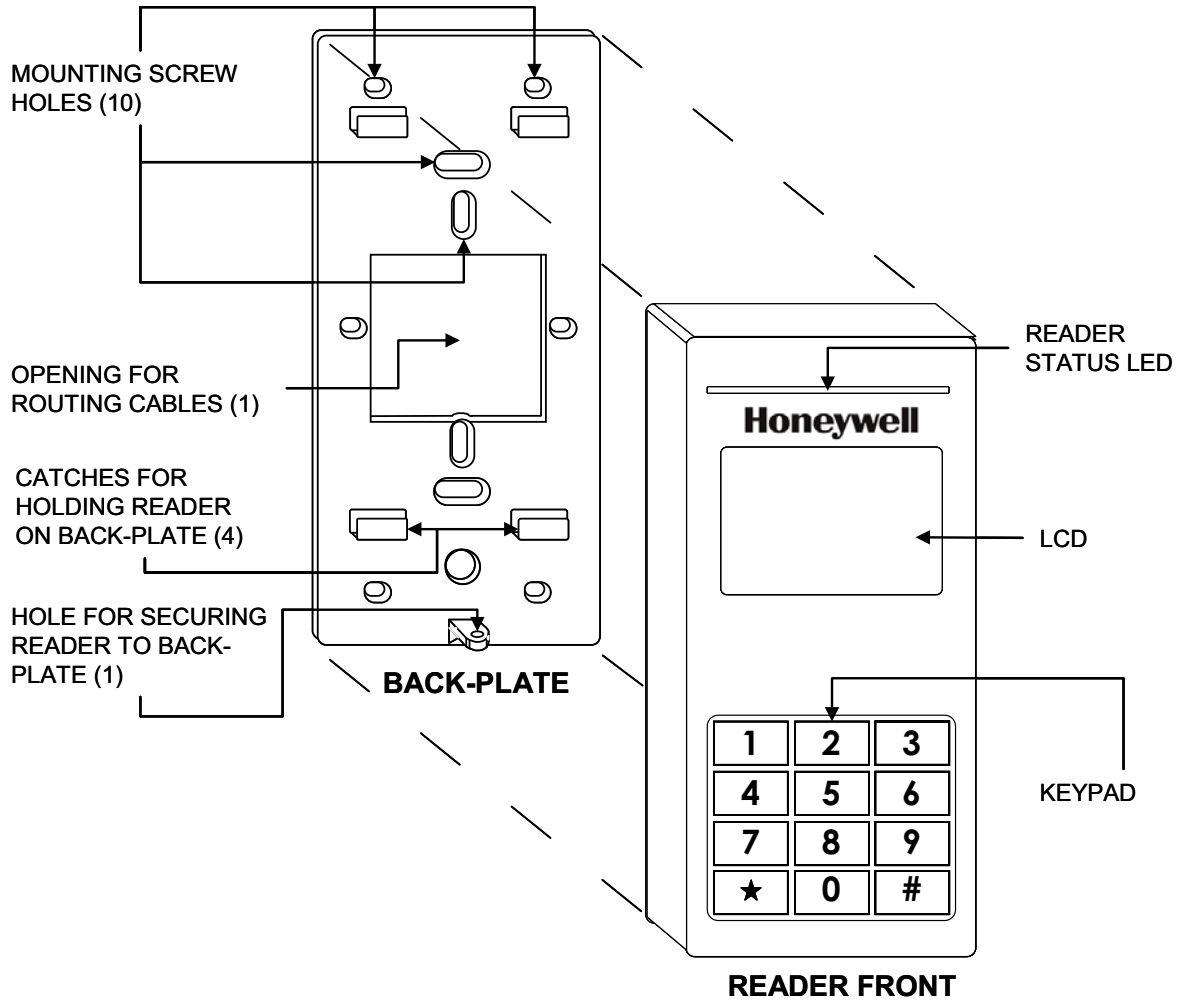
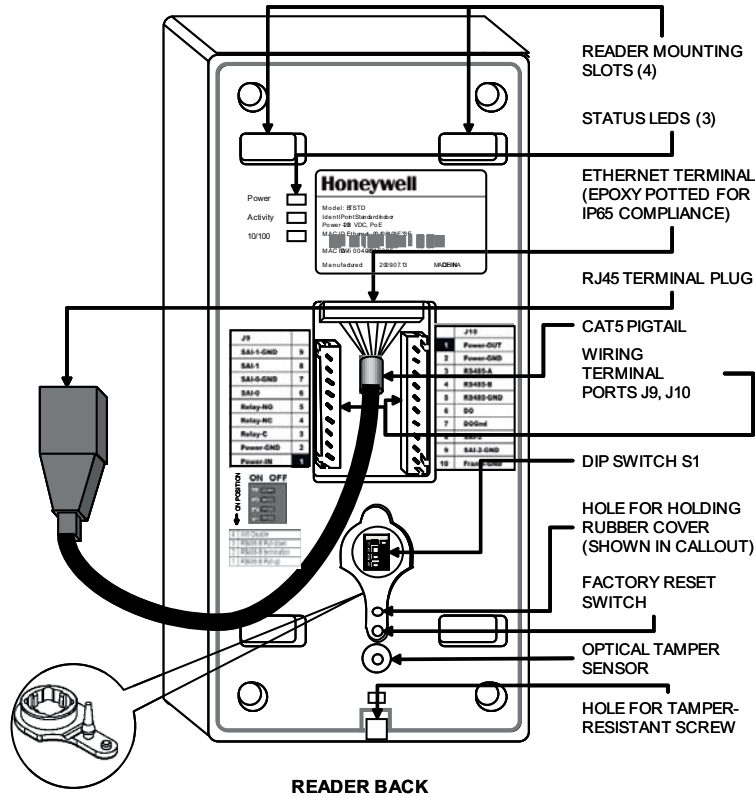

Fig. 2. Parts of IdentIPoint reader - Front of reader and Back-plate
Fig. 3. Parts of Identipoint reader - Back of reader
1. Fig.2 and Fig.3 show the parts of the IdentIPoint reader. Use the back-plate of the reader to mark out the position of the reader on the drywall. Mark the positions of the mounting screws and the opening for routing the cables.
1. Fig.2 and Fig.3 show the parts of the IdentIPoint reader. Ensure that the correct sized gang box is securely embedded in the concrete wall. The holes provided in the gang box for the screws should align properly with at least two of the holes provided in the reader back-plate for the screws.